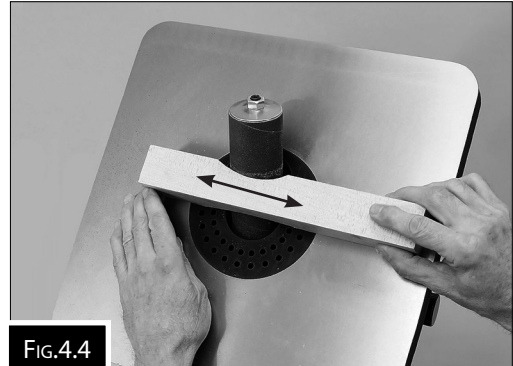

FIG.4.4
4. Feed the work into the machine always against the direction of rotation. (Fig.4.4)